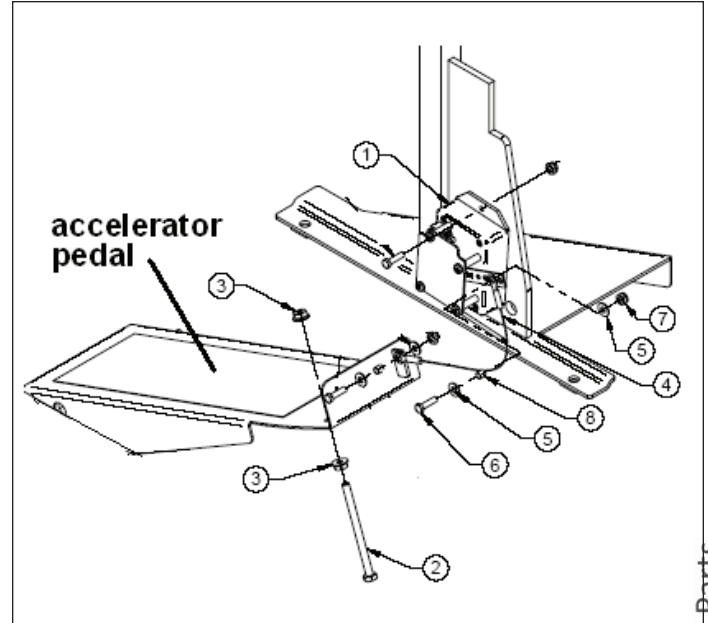

Figure 5-1. Accelerator and Speed Switch
1. Place yourself in the vehicle where you can see and observe the lanyard (wire cable) and hear the micro switch operate (Figure 5-1). The lanyard connects the accelerator pedal and speed switch lever.
1. Loosen both locknuts (3) on long bolt (Figure 5-1).
2. Turn long bolt (2) *clockwise* (viewed from bolt head) to shorten pedal travel or *counterclockwise* to shorten pedal travel.
4. When adjustment is correct, retighten the two locknuts (3).